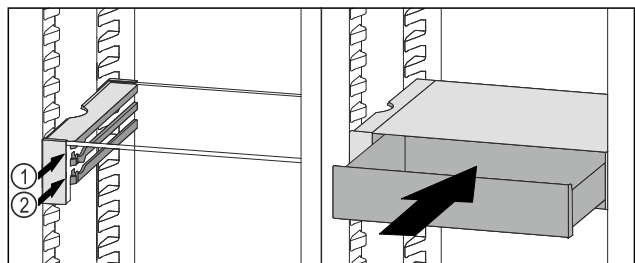

Fig. 198
- ▶ Place the VarioSafe drawer behind the stoppers on desired rib *Fig. 198 (1)* or *Fig. 198 (2)*.